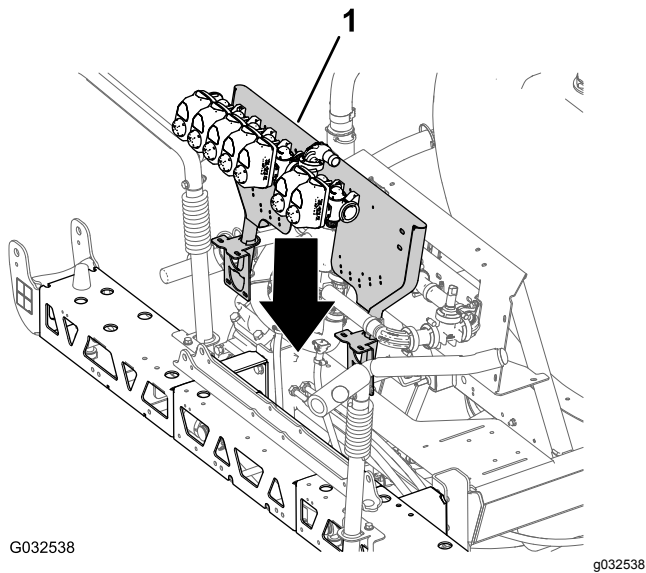

Figure 61
- Using lifting equipment with the specified capacity, lift the valve mount and sprayer valve assembly and align it over the center-boom section (Figure 61).